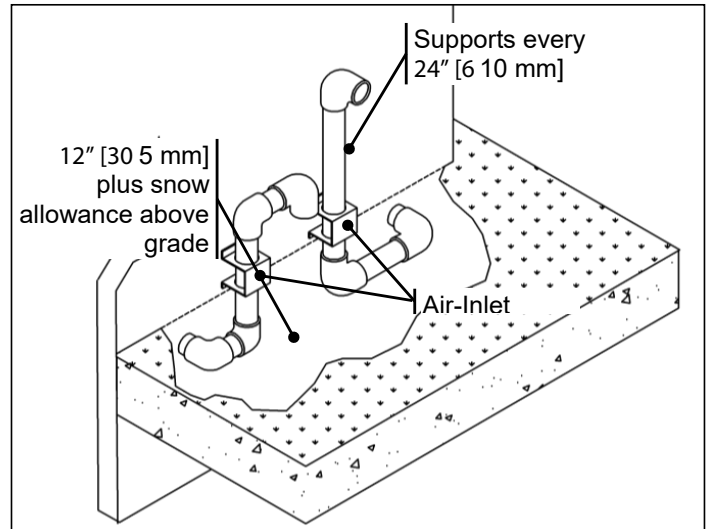

Figure 44 - Venting Below Grade
1. Excavate the site to a point where the pipes are to exit as shown in Figure 44.